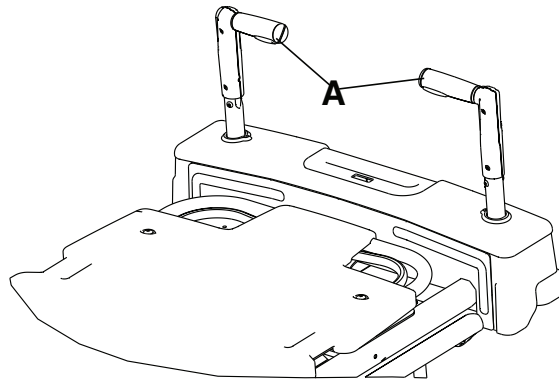

Figure 12 – Zoom handles in the raised position
4. Turn the On/Drive-Off/Manual switch (B) to the ON position.
6. If the drive handles are in the stowed position, pull the handles up to the raised position and then push down on the handles to lock them in the use position (Figure 12).